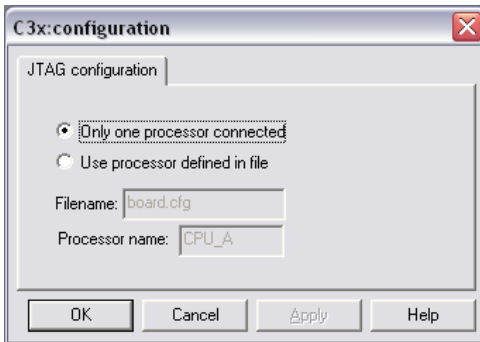

FIGURE 7 The Configuration dialog box.
8. The Configuration dialog box appears (Figure 7). Click OK if your system contains a single target processor. Otherwise, please refer to Appendix.
The Configuration dialog box (Figure 7) allows you to choose between single-processor and multi-processor setups through the following options: